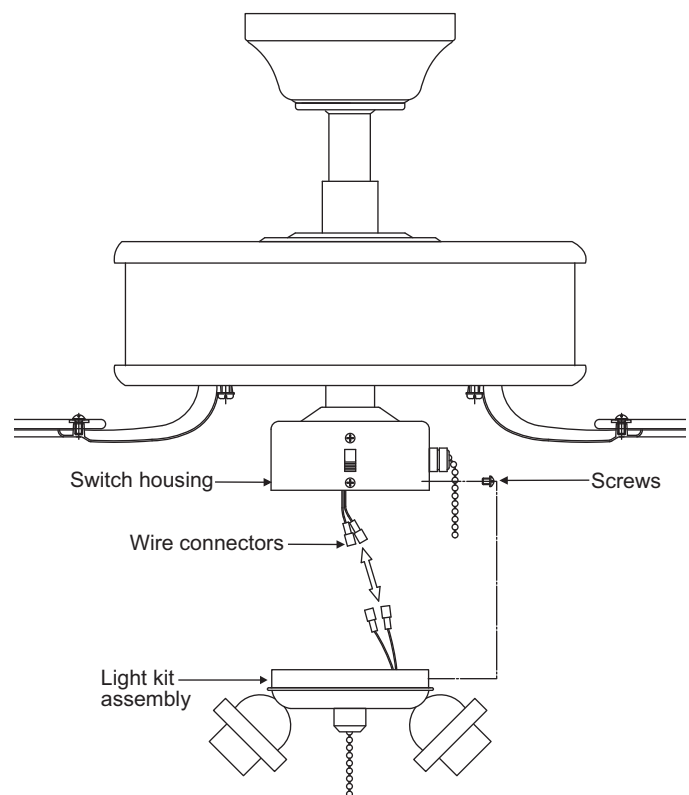

Figure 17
Step 2. Carefully push all wires back into the switch housing. Attach the light kit fitter by aligning its keyhole slots with the three screws holes and reversing switch on the side of switch housing. Tighten the three screws securely to prevent the light kit from vibrating loose. (Fig. 17)